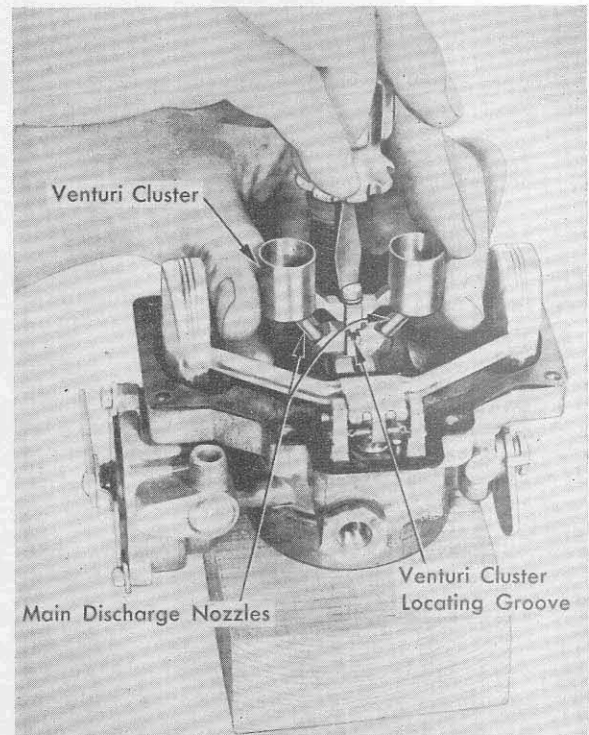

Figure 12
10. Install venturi cluster in its groove in air horn. Figure 12.